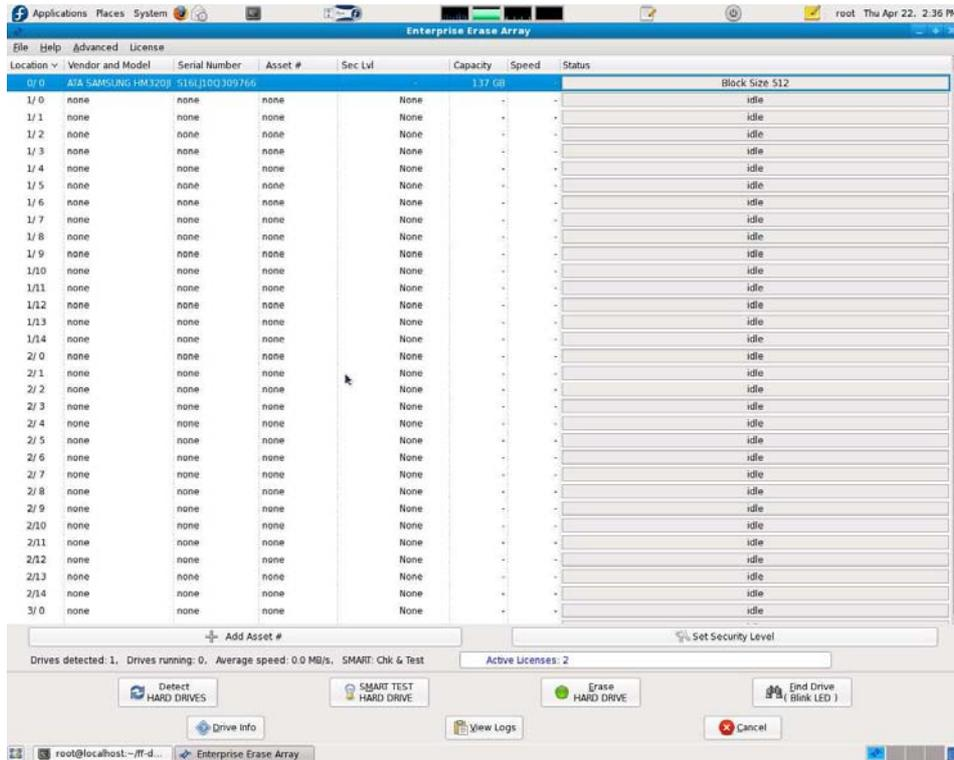

Figure 3.3 – User Interface Screen with Drives Highlighted
3.9 To begin the erasure process, first highlight the drive you would like to erase on the list of drives on the user interface screen. Figure 3.3 below shows a highlighted drive as it would appear on the screen.